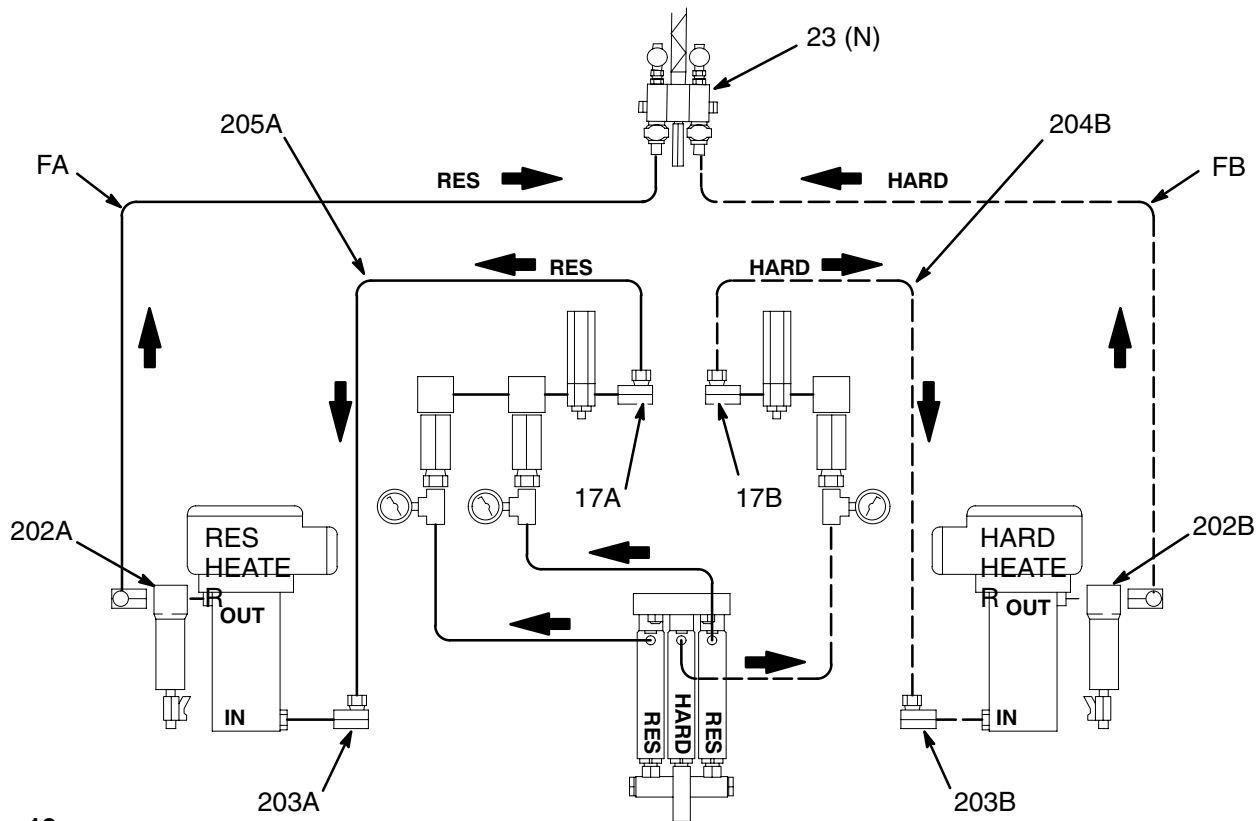

Fig. 10
NOTE: You must provide two hoses (FA, FB in Fig.10) and fittings to run from the heater outlets to the mixer manifold inlets.
1. Loosen the swivel of the unions (17A, 17B) to remove the elbow (16A, 16B) on each side of the mixer manifold (23). Turn the unions (17A, 17B) so the outlet faces up. See Fig. 10 and 11.
2. Connect a new hardener fluid hose (204B) between the union (17B) and the swivel (203B) at the heater inlet. See Fig. 10.
3. Install another hardener fluid hose (FB) between the heater outlet elbow (202B) and the hardener side of the mixer manifold (23). See Fig. 10.